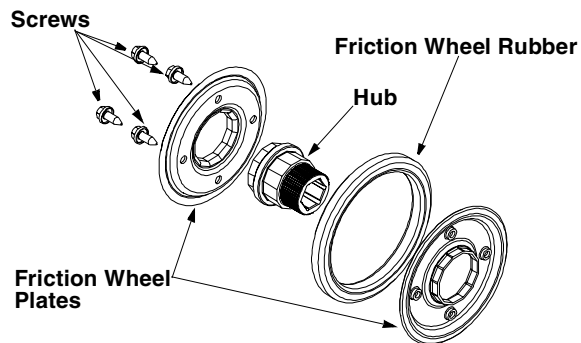

Figure 36
- Remove the four screws from the friction wheel assembly. Remove friction wheel rubber from between the friction wheel plate. See Figure 36.
- Reassemble new friction wheel rubber to the friction wheel assembly, tightening the four screws in rotation and with equal force. It is important to assemble the rubber on the friction wheel equally for proper functioning. See Figure 36.